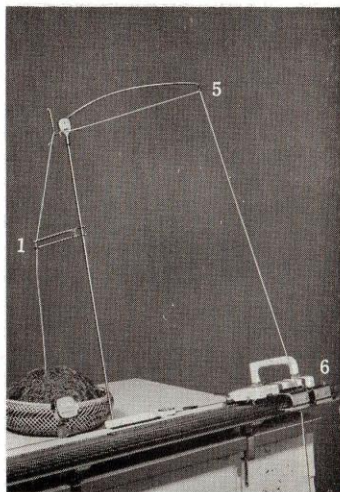
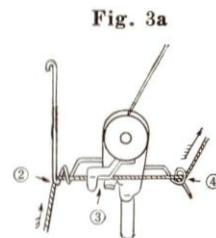

Fig. 3
Fig. 3a
3. Thread up the Overhead Feed-Control Unit and Carriage Feeder in the following sequence: Fig. 3-1, Fig. 3a - 2 - 3 & 4, Fig. 3 - 5 & 6.